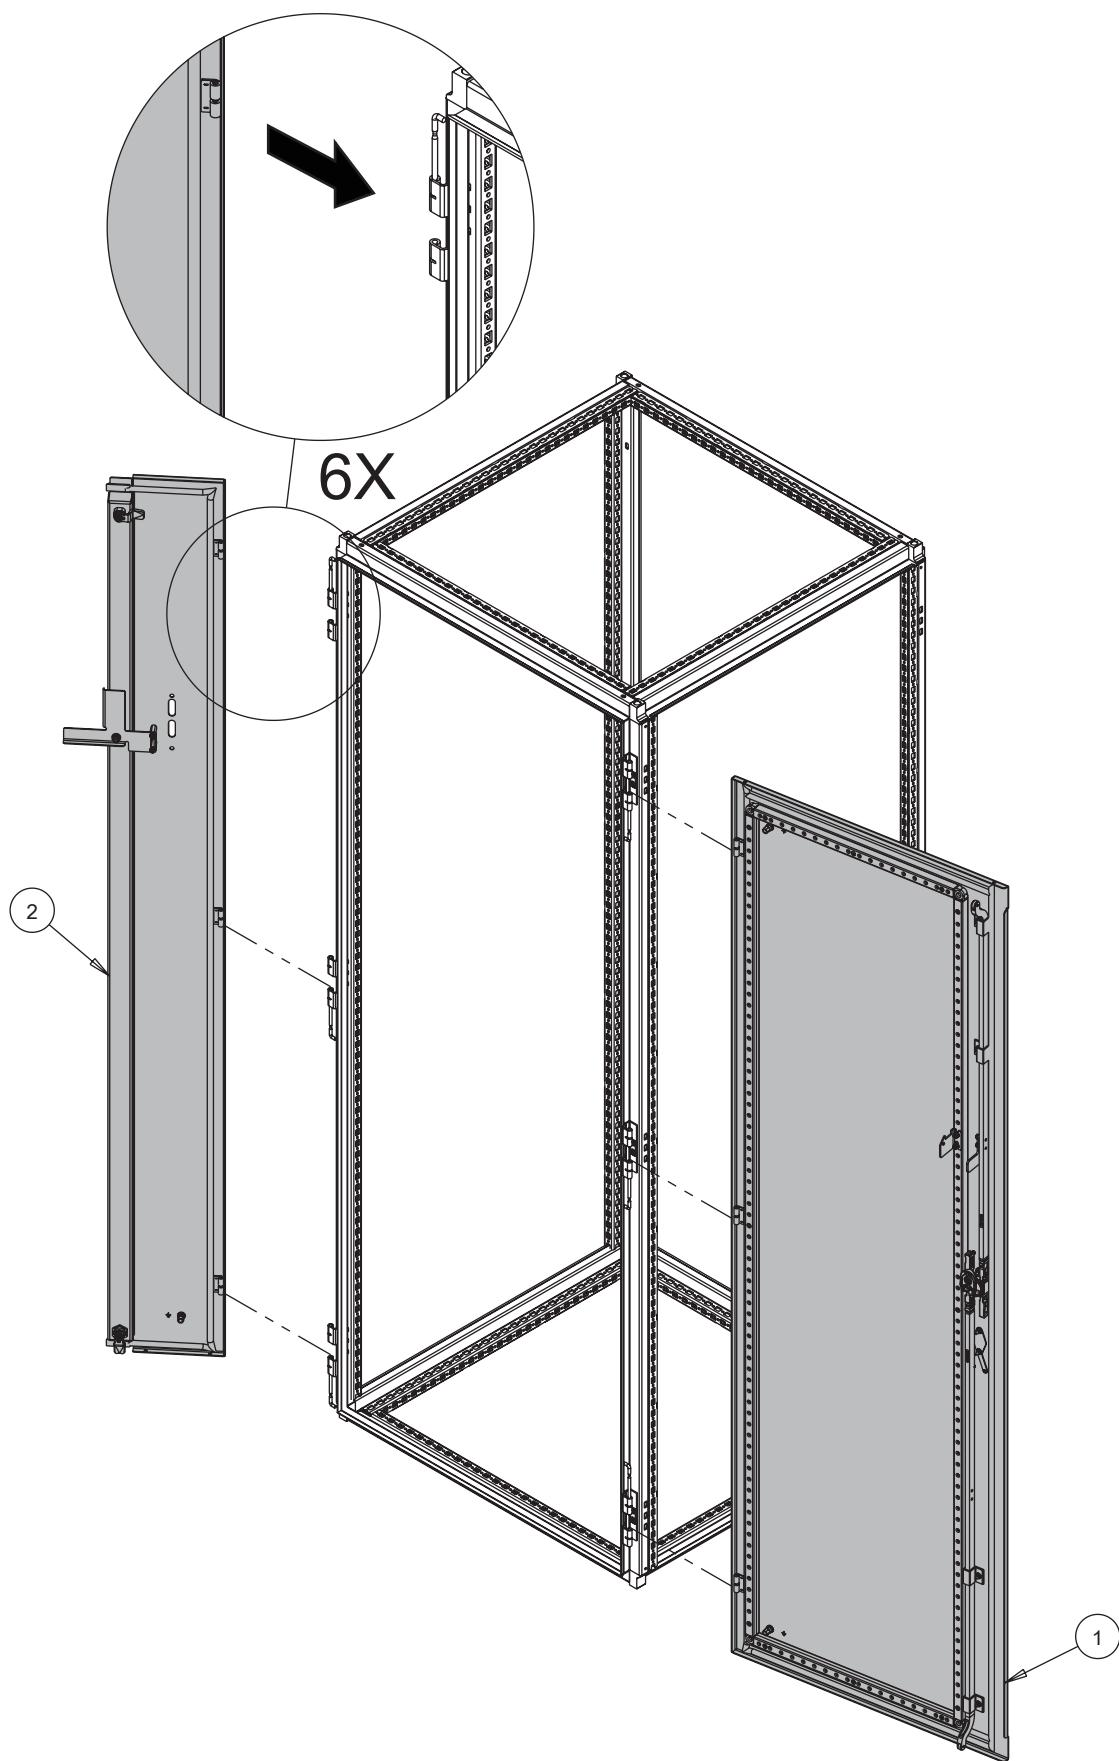

**FIGURE 1**
**Step 2:** Install the disconnect/circuit breaker operating handle on the disconnect mullion per the manufacturer's instructions. Remove the pivot bracket shown in Figure 1.
**Step 3:** Position the pivot bracket (removed in step 2) so that the interlock lever (on the disconnect operating handle) fits between the two adjustable studs. See Figure 1. Secure pivot bracket to disconnect mullion with shoulder collar and hex nut.
**Step 4:** Close and latch the disconnect mullion to the PROLINE G2 frame. Sliding latches are provided at the top and bottom of the mullion. See Figure 1.
a. Adjust studs on pivot bracket so pivot bracket is horizontal when disconnect operating handle is in the "OFF" (open) position. The interlock lever moves upward when the disconnect handle is operated to the "ON" (closed) position. This motion rotates the pivot bracket so it will engage with the door catch on the disconnect door. Adjust door catch up or down if necessary to provide proper engagement. See Figure 1.
b. Adjust lifting lever (mounted on latch rod). See Figure 1. The lifting lever moves upward as disconnect door is being latched. The lifting lever prevents the pivot bracket from rotating which releases the interlock lever on the disconnect operating handle. This action allows the disconnect operating handle to be operated to the "ON" (closed) position only when disconnect door latching is engaged to the frame.
(See Figure 1) If the operating handle cannot be pushed up into the "ON" position (with door closed), move the defeater lever on the latch door up slightly. See Figure 1.